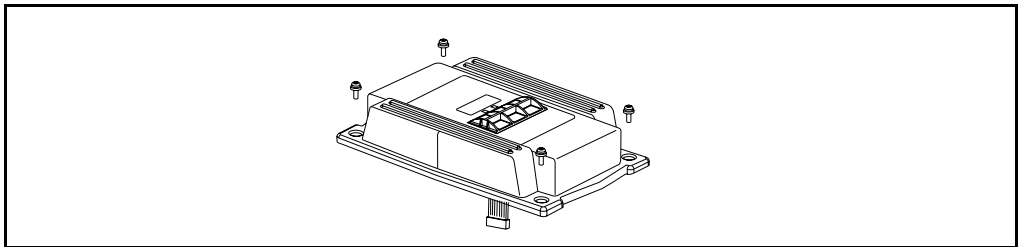

Figure 2.1 – Removing the Cover
- Step 3. Remove the cover on the VSM500 unit by loosening the four cover screws (see figure 2.1). The display cable is designed to disconnect when the cover is removed.